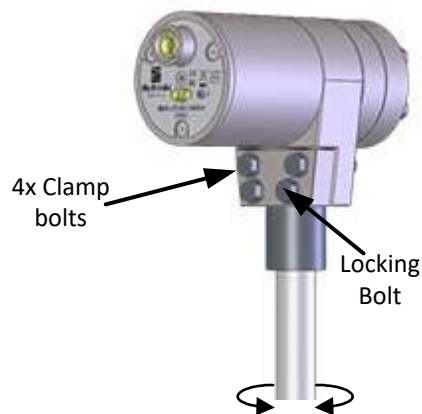
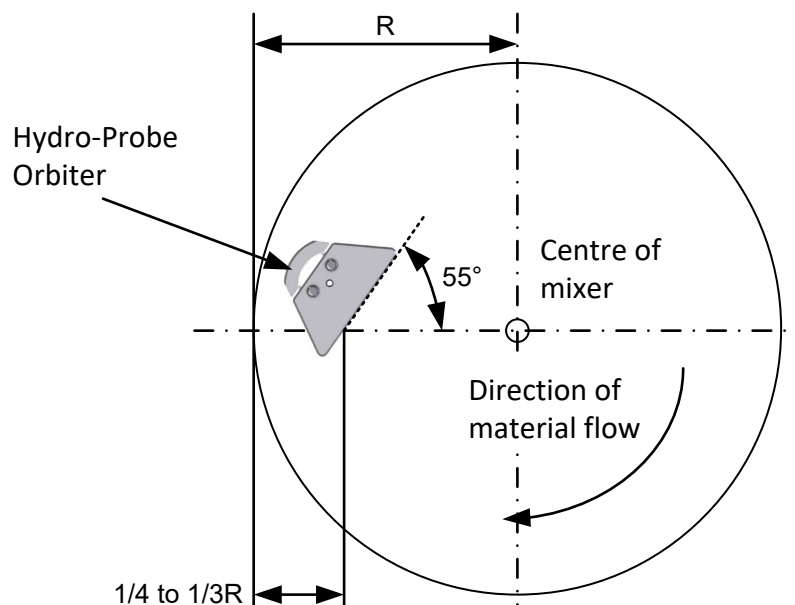
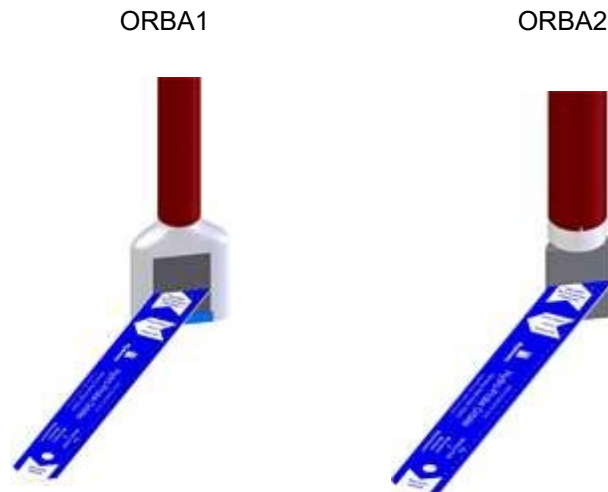

Figure 15: Adjusting the Sensing Head angle
Figure 16: Setting the sensor angle for optimum performance
Figure 17: The Hydronix Angle Aligner for Ceramic Faceplate alignment
The sensor should be attached along the scraper blade arm approximately 1/4 to 1/3 of the distance in from the wall of the mixer (see Figure 16). The Ceramic Faceplate of the Sensing Arm should be angled at 55° to the centre of the mixer, which can be set using the aligner provided (see Figure 17 for further information).
The Sensing Head should be positioned in an area where the flow of material is the smoothest. Normally this is a quarter or a third of the distance in from the outer edge of the mixer wall. (Figure 17)
Loosening the four Sensing Arm Clamp Bolts allows the arm to be rotated through an angle of approximately 300° (Figure 15). The sensing arm is fitted with a mechanical stop to protect the internal cables from being over-rotated. If the mechanical stop prevents the Ceramic Faceplate from being adjusted to the desired angle in relation to the flow of material (Figure 16) remount the Hydro-Probe Orbiter Head Unit on the mounting bar at a different angle. Care should be taken not to twist the arm without having the lock bolt inserted to prevent damage to the internal cables.
- An angle of 55° generally provides good results. Use the angle aligner provided to set the angle (Figure 17).